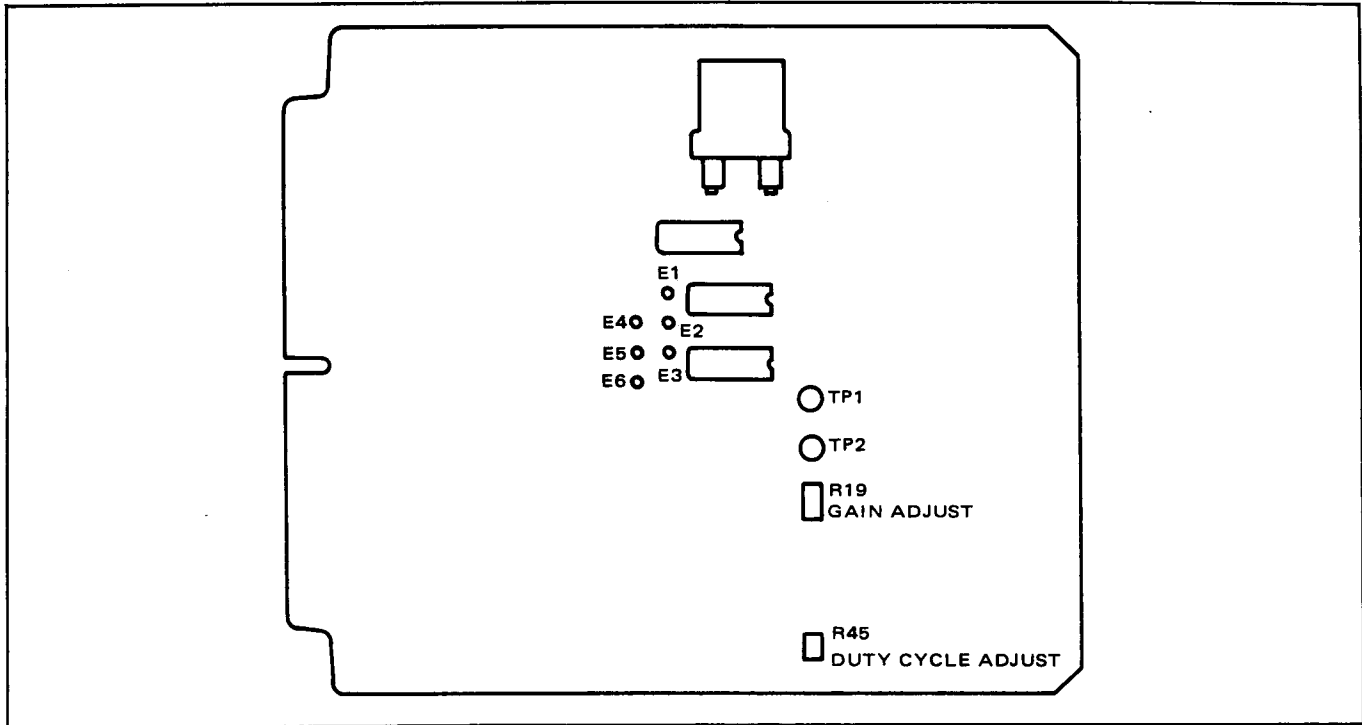

Figure 5-7. Servo PWA Test Points and Adjustments
2. Attach an oscilloscope probe to the PWA test point TP2 (see Figure 5-7).